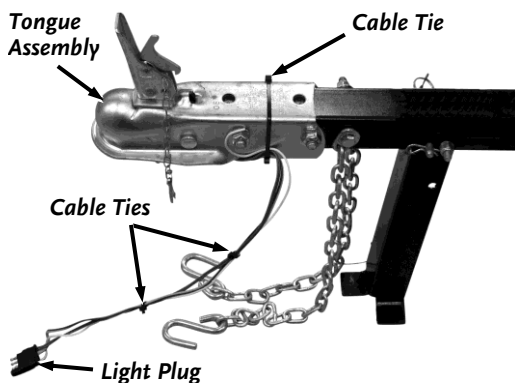

Figure 17
19. Secure the Wires to the Tongue Assembly between the two large Bolts to ensure they will not get caught between the Tongue and Ball of the Tow vehicle (**Figure 17**).